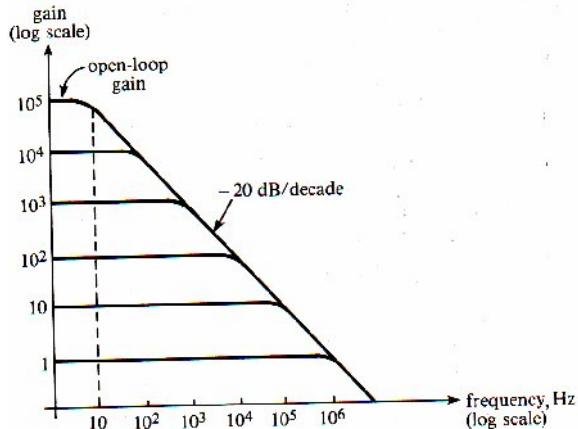

Figure 2-16 A typical set of frequency response plots for a noninverting amplifier
Figure 2-16 shows the bandwidth decreases as the closed-looped gain increases.
Example 2-7. for the amplifier whose frequency response is shown in figure 2-16, find
1. In Figure 2-16, seen the open-loop gain=1 when the frequency is 1MHz. Thus, $f_t=1\text{ MHz}$.